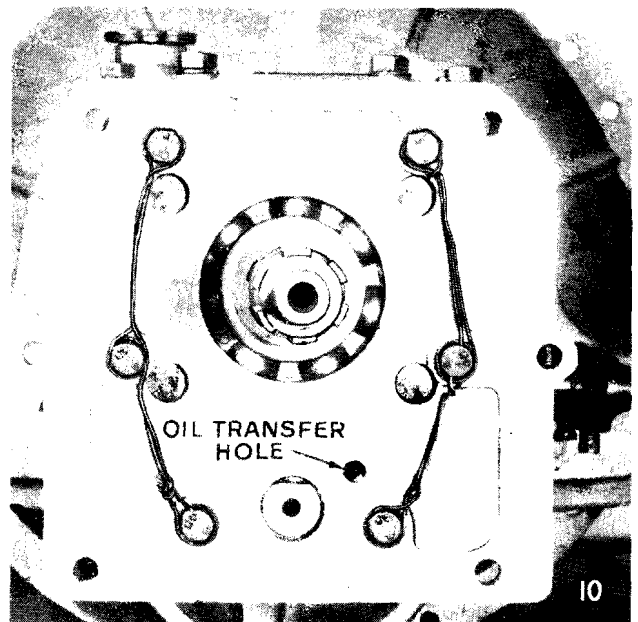

Fig. 2. Showing oil transfer hole and correct wiring of bolts.
7. Drill oil transfer hole indicated in Fig. 2 through paper packing (all these packings now being issued are provided with the extra hole).
15. Fit adaptor plate and packing on the gearbox casing using jointing compound. Wire the heads of the six securing bolts as shown in Fig. 2. The correct positioning of the locking wire is important to ensure proper working clearance for the assembled overdrive unit.